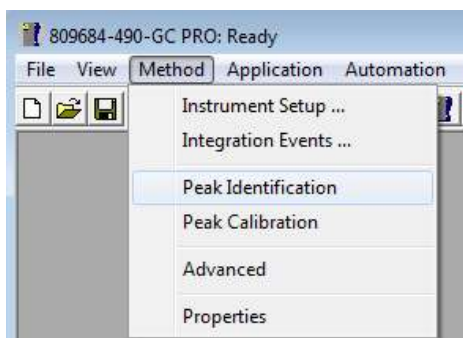

Figure 45: Open Peak Identification table.
- Open the Peak Identification/Calibration table. Select: Method\Peak Identification, see Figure 45.
- Open peak Identification/Calibration table, select method\Peak ID table, Figure 45.